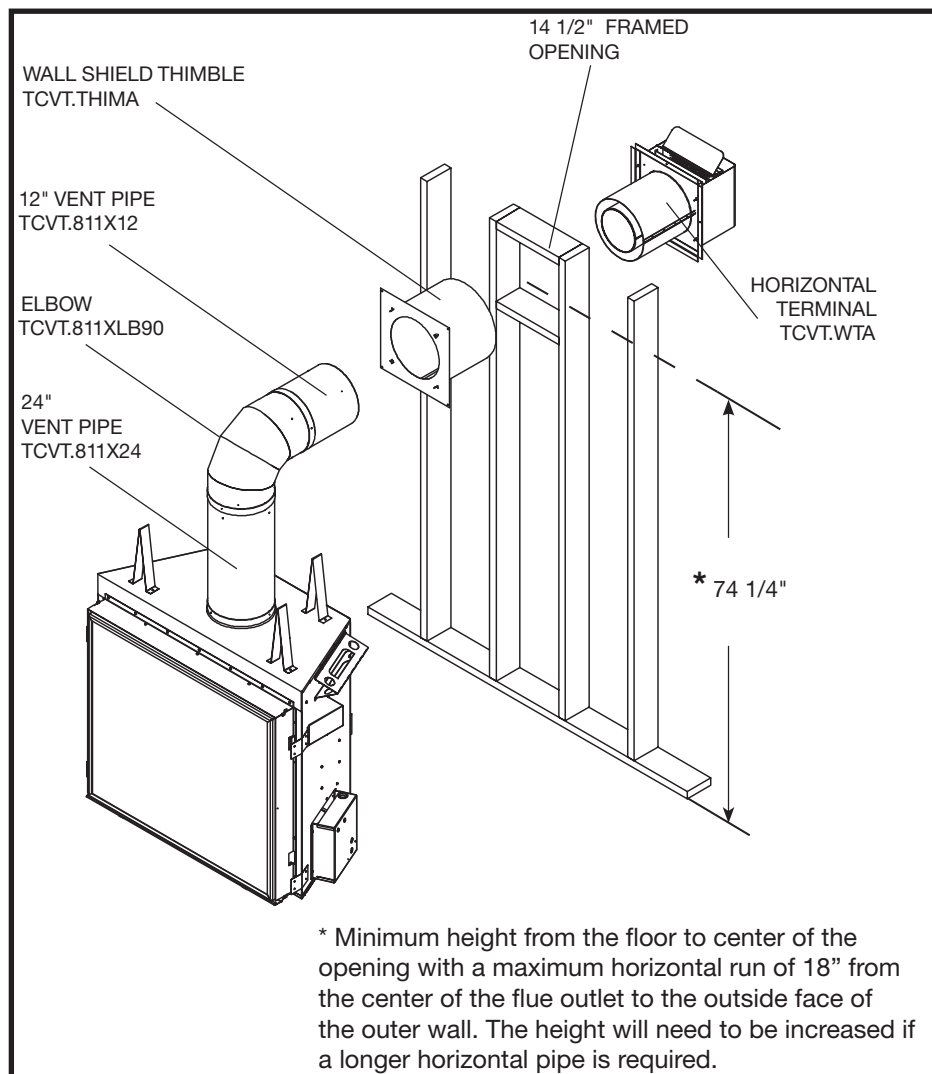

Figure 34: Wall vent terminal framing.
1. Having determined the position of the fireplace, cut and frame a 14 1/2 inch opening centred at a minimum height of 74 1/4 inches above the floor (Figure 34). The opening may be round or square. Height of the opening will vary with each installation. As the horizontal vent run increases, so does the minimum vertical rise. See Figure 35.